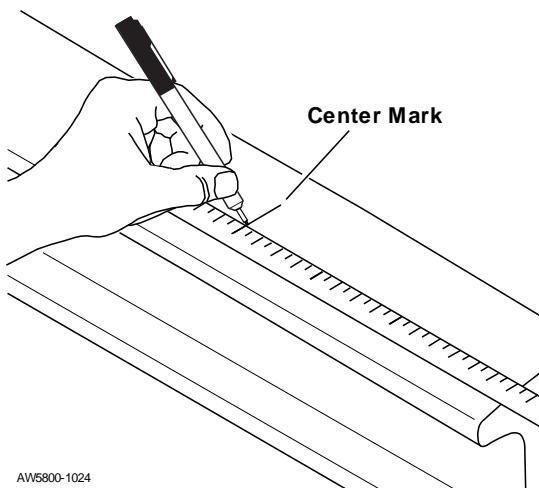

Fig. 1: Marking the Center of the Steer Axle
1. Locate and mark the center of the steer axle (Fig. 1)
5. Re-mark the center of the steer axle (Fig. 1)